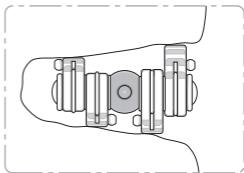

Figure 4
- Basic 0.70HY and Basic 0.85HY references have a small sized two cam lobes and another bigger sized two cam lobes, and are special for flared cracks. The small cam lobes must be placed in the thinner portion of the crack (**see figure 4**).